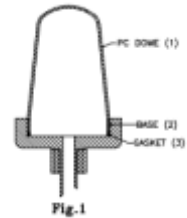

Fig.1
1. Unscrew upper screw sub assembly from lower sub assembly. (Refer Fig.1)